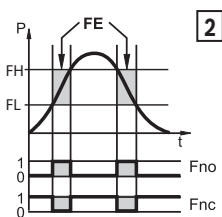

Fig. 2 Normally closed
- Window function / normally closed: **[ou1] = [Fnc]** (see Fig. 2).